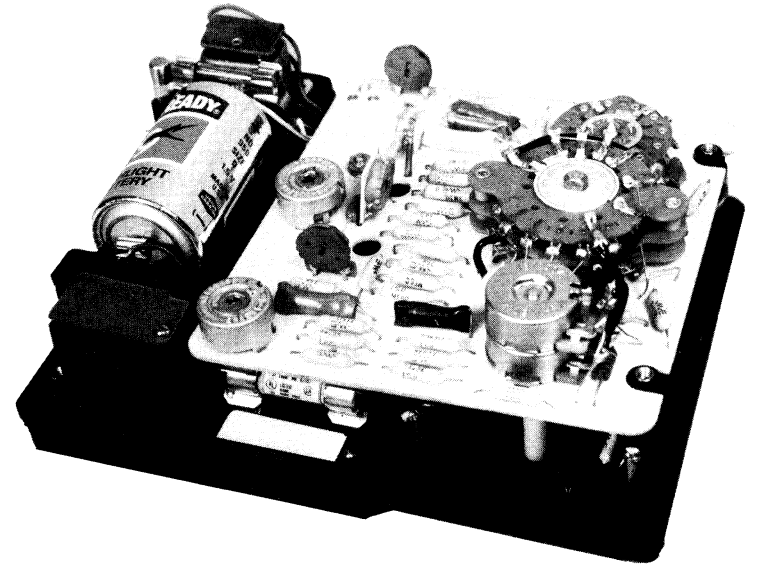

Figure 4-1. 260-6XL, Rear View With Cover Removed
NOTE: If replacement of the 2-ampere high current interrupting fuse is necessary, the Instrument case must be removed (refer to paragraph 4.5 and Figure 4-1).
- c. Lift the case off the Instrument and set it aside. Maintenance now can be performed on the Instrument (see Figure 4-1).